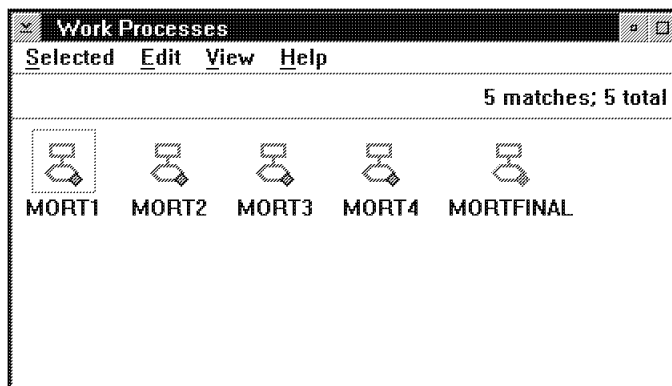

Figure 25. Work Processes Container Window
In Work Management Builder, each work process is an object that is represented by a work process icon. These work process objects are defined and displayed in the Work Processes container window. A sample Work Processes container window is shown in Figure 25.
1. Double-click on the Work Processes icon in the Work Management Builder window. You can also select the Work Processes icon, then select **Open** from the **Selected** pull-down. You see the Work Processes container window shown in Figure 25 on page 51.